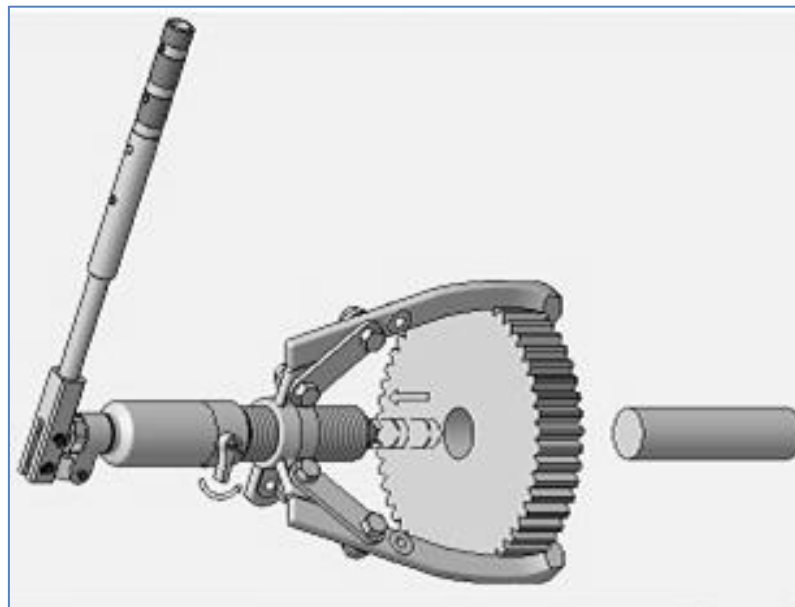

Figure 10 – Retracting the Piston
- 5.4.2 Turn the control valve knob fully (counter clockwise) to retract the piston. See Figure 10.